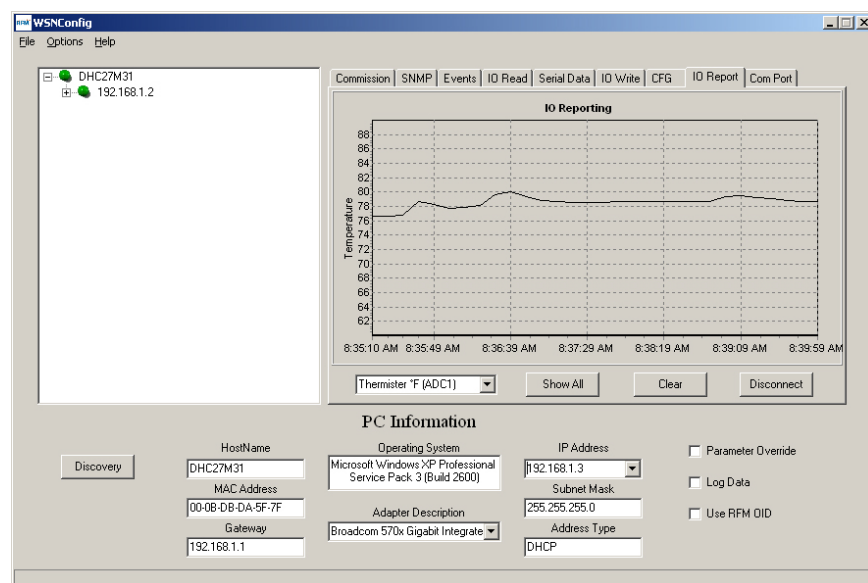

Figure 8.3.5
8. Click on the *IO Report* Tab. Data will automatically begin filling the chart at a 10 s update interval. Blowing warm air (breath) on thermistor RT1 on the developer board can be observed on the chart, as shown in Figure 8.3.5. The developer kit is now ready for use.